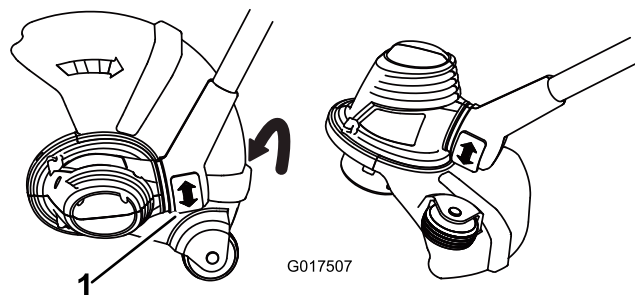

Figure 5
- To adjust the orientation of the base, press down on the rotator button located at the base of the shaft, then move the base to face the desired direction (Figure 5).